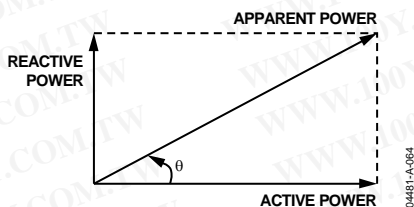

Figure 63. Power Triangle
The apparent power is the maximum power that can be delivered to a load. V_{rms} and I_{rms} are the effective voltage and current delivered to the load; the apparent power (AP) is defined as $V_{rms} \times I_{rms}$. The angle θ between the active power and the apparent power generally represents the phase shift due to nonresistive loads. For single-phase applications, θ represents the angle between the voltage and the current signals—see Figure 63. Equation 24 gives an expression of the instantaneous power signal in an ac system with a phase shift.